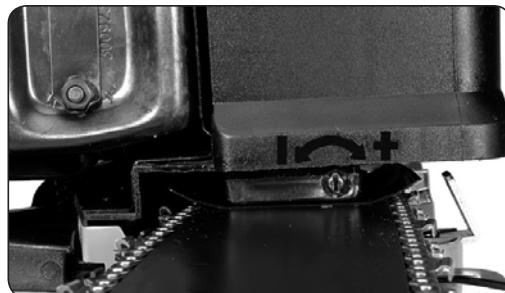

Fig. 9
to the bar and chain may be changed by turning the adjustment screw (A) as shown in (Fig. 9). Turn the screw clockwise to decrease oil flow and counter clockwise to increase the flow.